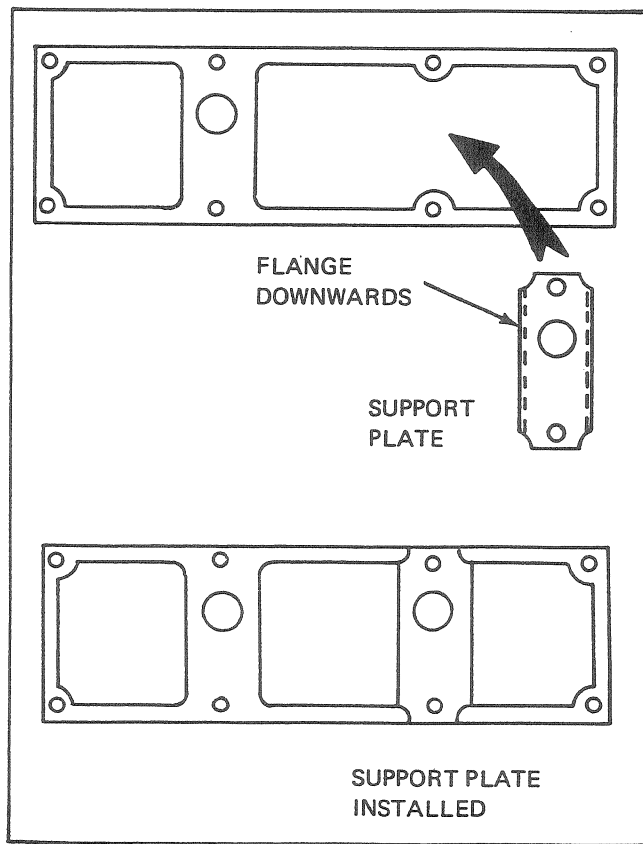
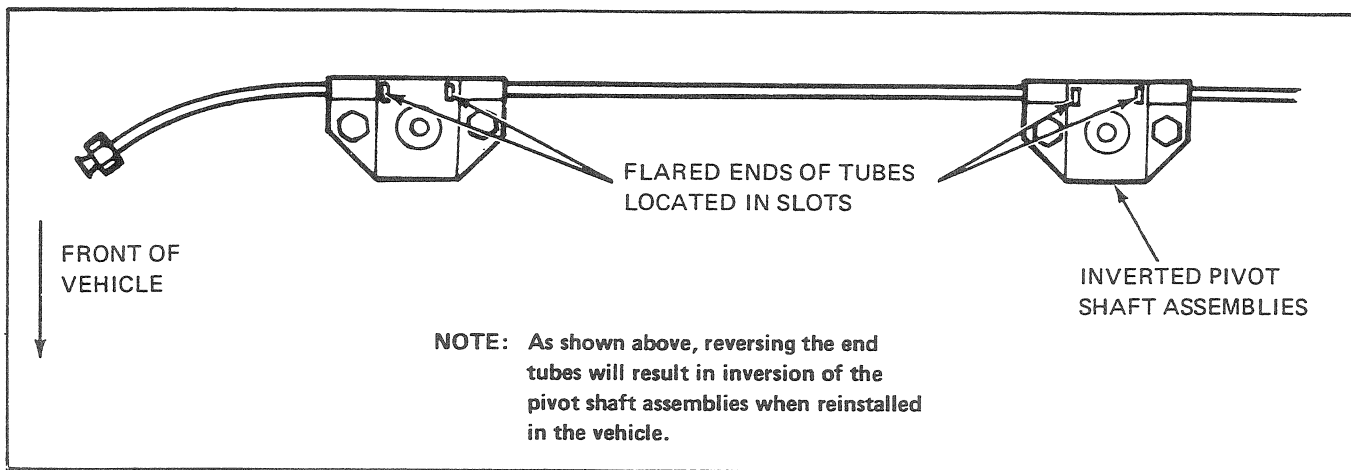

Fig. 7 – Article No. 113
Fig. 6 – Article No. 113
3. Remove the two (2) nuts and one (1) screw retaining the windshield wiper motor shield and remove the shield.
6. Remove the two (2) nuts retaining the windshield wiper motor clamp, remove the clamp and windshield wiper motor complete with the drive cable rack.
8. Loosen two (2) bolts in each pivot shaft assembly in order to loosen the tubes in which the driveshaft rack operates. Remove the pivot shaft retainer nut and spacer and remove both pivot shaft assemblies complete with tubes from the car (through the right wheel arch).
11. Install new curved tube, (5-1/2 inches longer) to left pivot shaft. (See Fig. 6)
13. Tighten four (4) retaining bolts finger tight.
14. Locate new pivot shaft support plate, flange side downwards, (with pivot hole to the top) to the left of the existing mounting in the cowl openings. (See Fig. 7)